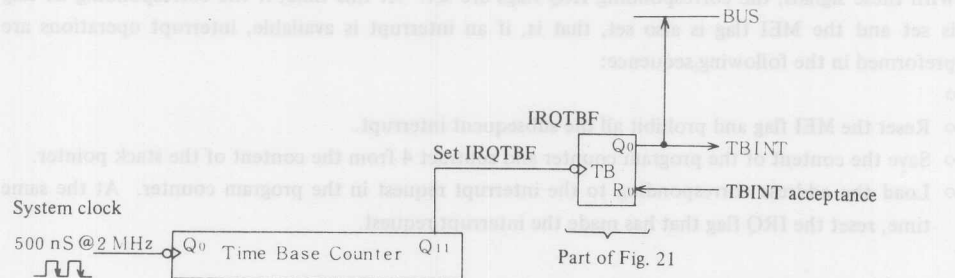

Fig. 22 Structure of Time Base Counter
The time base counter (TB) consists of a 12-bit binary counter. Dividing  $2^{12}$  by the system clock frequency, it makes an interrupt request each time it overflows. Figure 22 shows the structure of the time base counter. With  $f_{CLK}$  as the clock frequency, the interrupt cycle  $t_{TBI}$  can be calculated by the following formula: